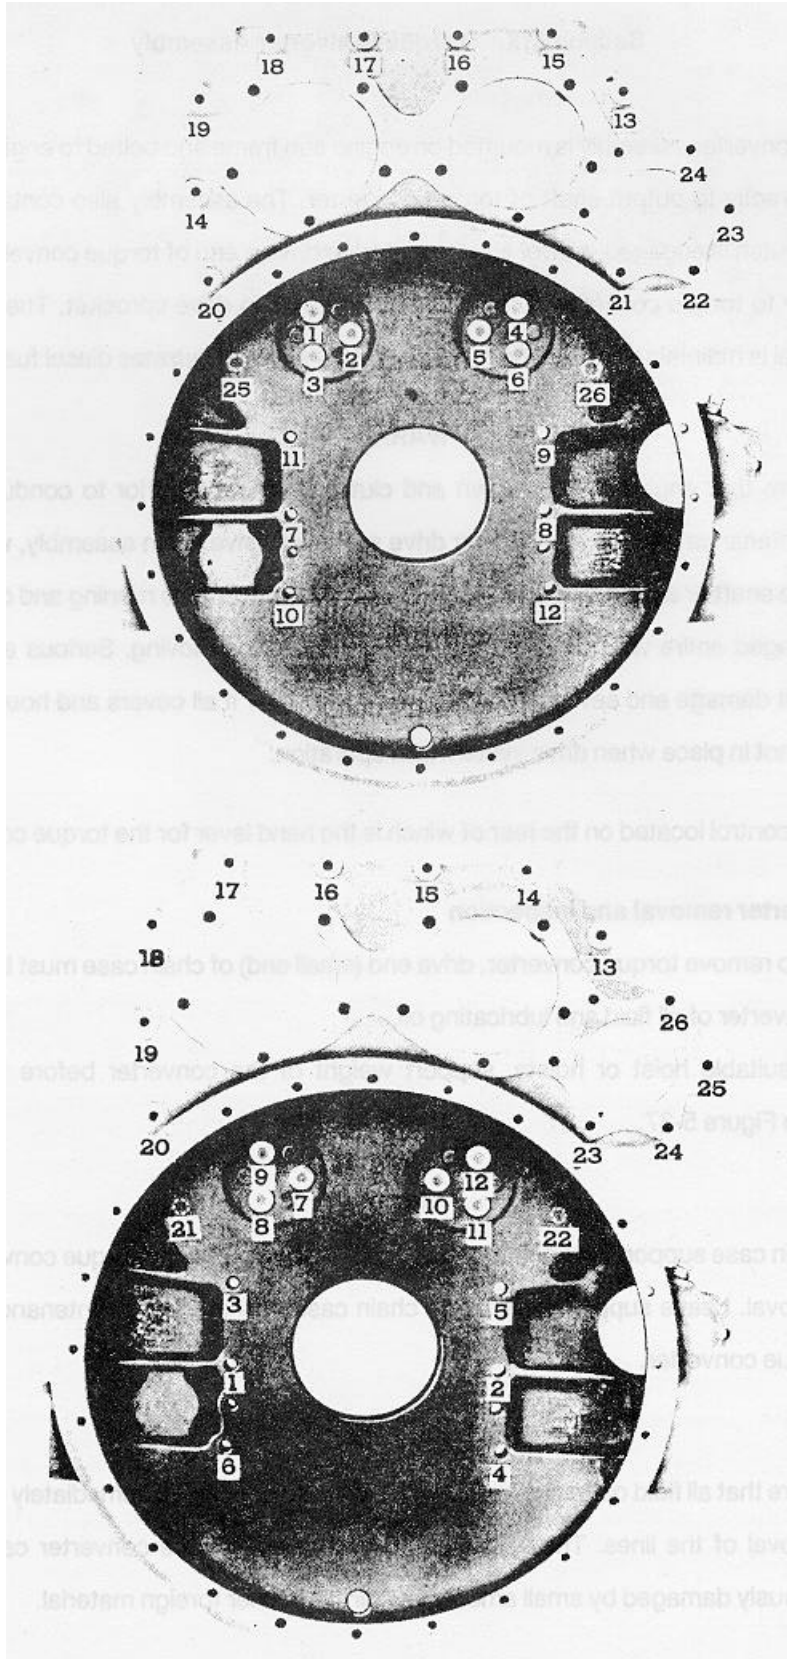

Figure 5-35. Flywheel Housing Bolt Tightening Sequence.
(8) Tighten bolts up to 10-15 lb ft less than specified torque as shown in Figure 5-35.
(9) Refer to Figure 5-35, and tighten bolts in order to torques shown below.